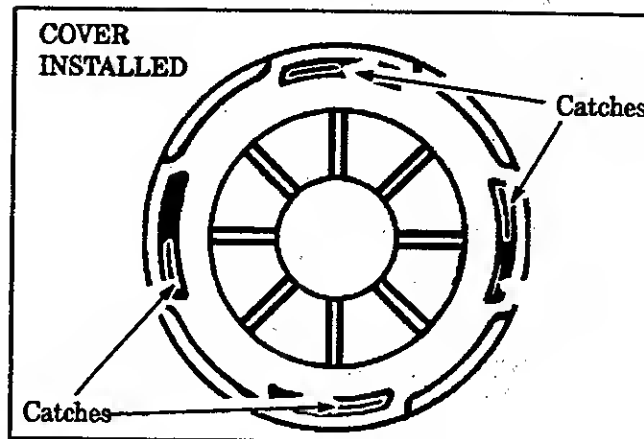

Figure 24
- Align the four Catches on the Hub with the cutouts in the Cover. Figure 24.